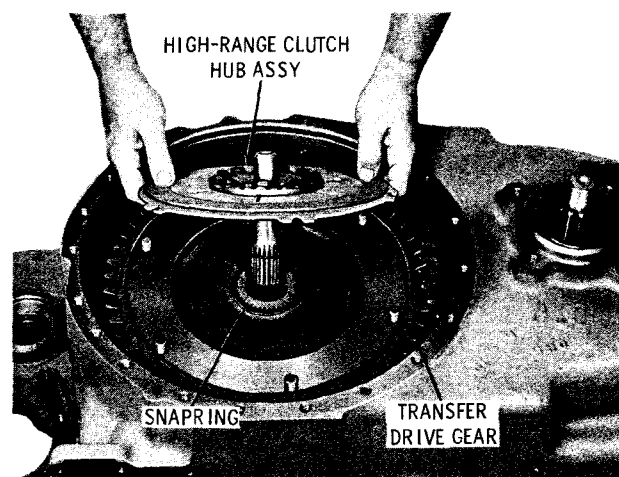

Fig. 5-24. Removing high-range clutch hub assembly (no power takeoff)
(1) Remove the high-range clutch hub assembly from the transfer drive gear (fig. 5-24). Refer to paragraph 6-17 for high-range clutch hub assembly rebuild instructions.
(2) Remove the snapping from the low-range planetary carrier, and remove the transfer drive gear assembly (fig. 5-24). Refer to paragraph 6-18 for the transfer drive gear rebuild instructions.